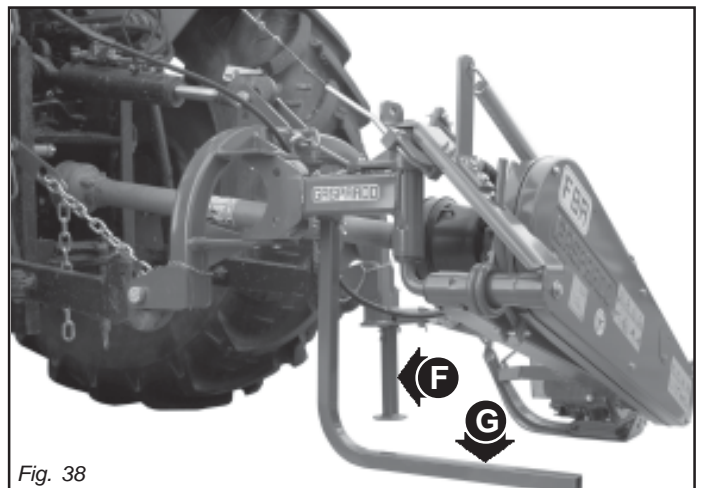

Fig. 38
- **Lastly, store the implement in a dry place where it cannot be tampered with by unauthorized persons; the mowing machine must be set-up on flat and compact ground, supported by the relative bearing struts (F-G, Fig. 38).**